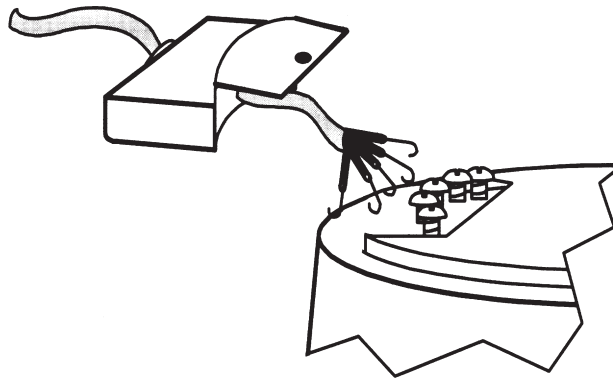

Figure 2.4 Connecting the Conductors to the Terminal Screws
- 7 Loosen the terminal screws, as shown in Figure 2.4.